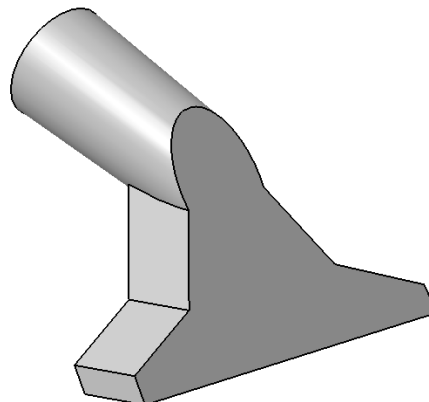

Figure 6-83 Model after creating the pocket feature
3. Using the **Hide/Show** tool, hide Sketch1, Sketch2, Plane1, and Plane2. The model, after creating the third feature, is shown in Figure 6-83.